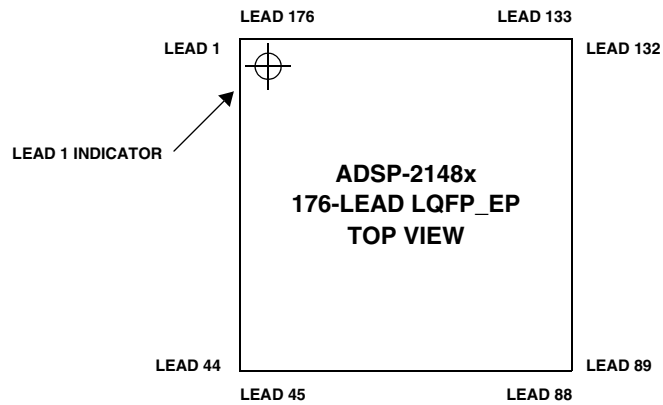

Figure 51. 176-Lead LQFP_EP Lead Configuration (Top View)
* Lead no. 177 (exposed pad) is the GND supply (see Figure 51 and Figure 52) for the processor; this pad must be **robustly** connected to GND.
Figure 51 shows the top view of the 176-lead LQFP_EP lead configuration. Figure 52 shows the bottom view of the 176-lead LQFP_EP lead configuration.